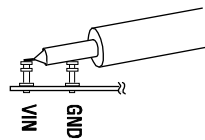

Figure 2: Scope Probe Placement for Measuring Input or Output Ripple
**NOTE:** When measuring the input or output voltage ripple, care must be taken to avoid a long ground lead on the oscilloscope probe. Measure the input or output voltage ripple by touching the probe tip directly across the VIN or VOUT and GND terminals. See Figure 2 for proper scope probe technique.